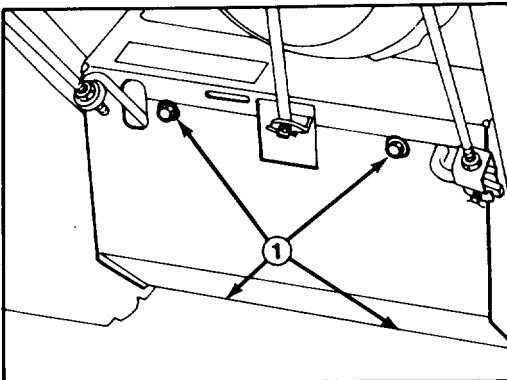

Figure 28
1. Remove four thread forming screws securing bottom cover to frame. Remove bottom cover (Fig. 28).